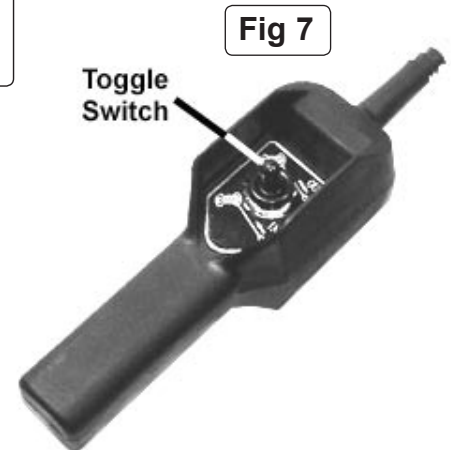

Fig 7
4. To extend the cable, move the toggle switch (fig 7) to the 'Out' position.
5. To winch the cable, move the toggle switch (fig 7) to the 'In' position.